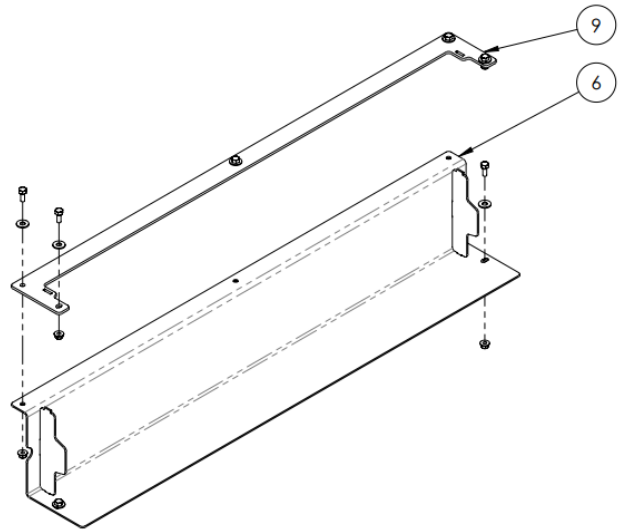

Figure 18: RH end shield assembly
- ii. Line up the holes on the end shield (6) and cap (9) with the conveyor. Fasten the end shield to the conveyor using 7 of  $\frac{5}{16}$ " x  $\frac{3}{4}$ " hex bolts,  $\frac{5}{16}$ " flat washers and  $\frac{5}{16}$ " flange lock nuts, see Figure 18.